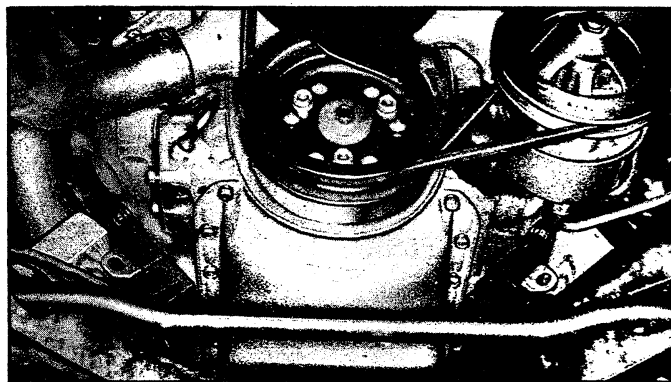

Fig. 8V - Engine Blocked for Pan Removal
10. Using a suitable jack, and a block of wood to prevent damaging oil pan, raise engine enough to insert 2" x 4" wood blocks under engine mounts (fig. 8V), then lower engine onto blocks.